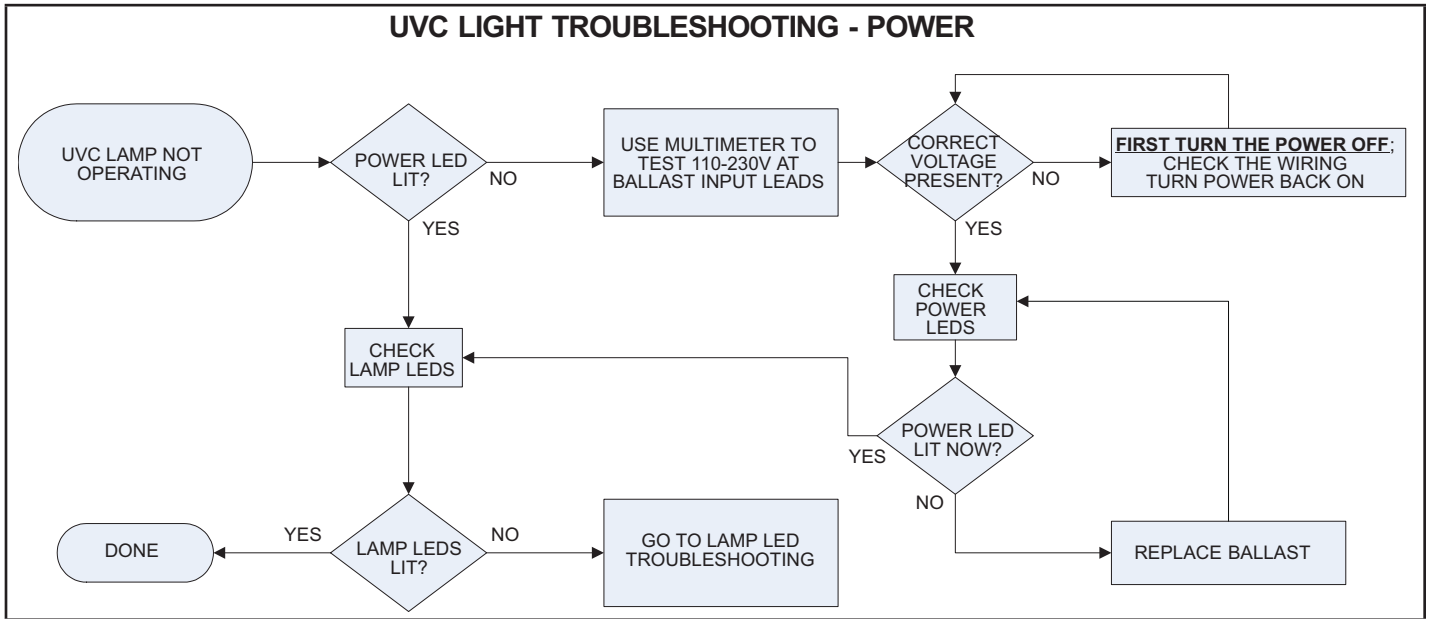
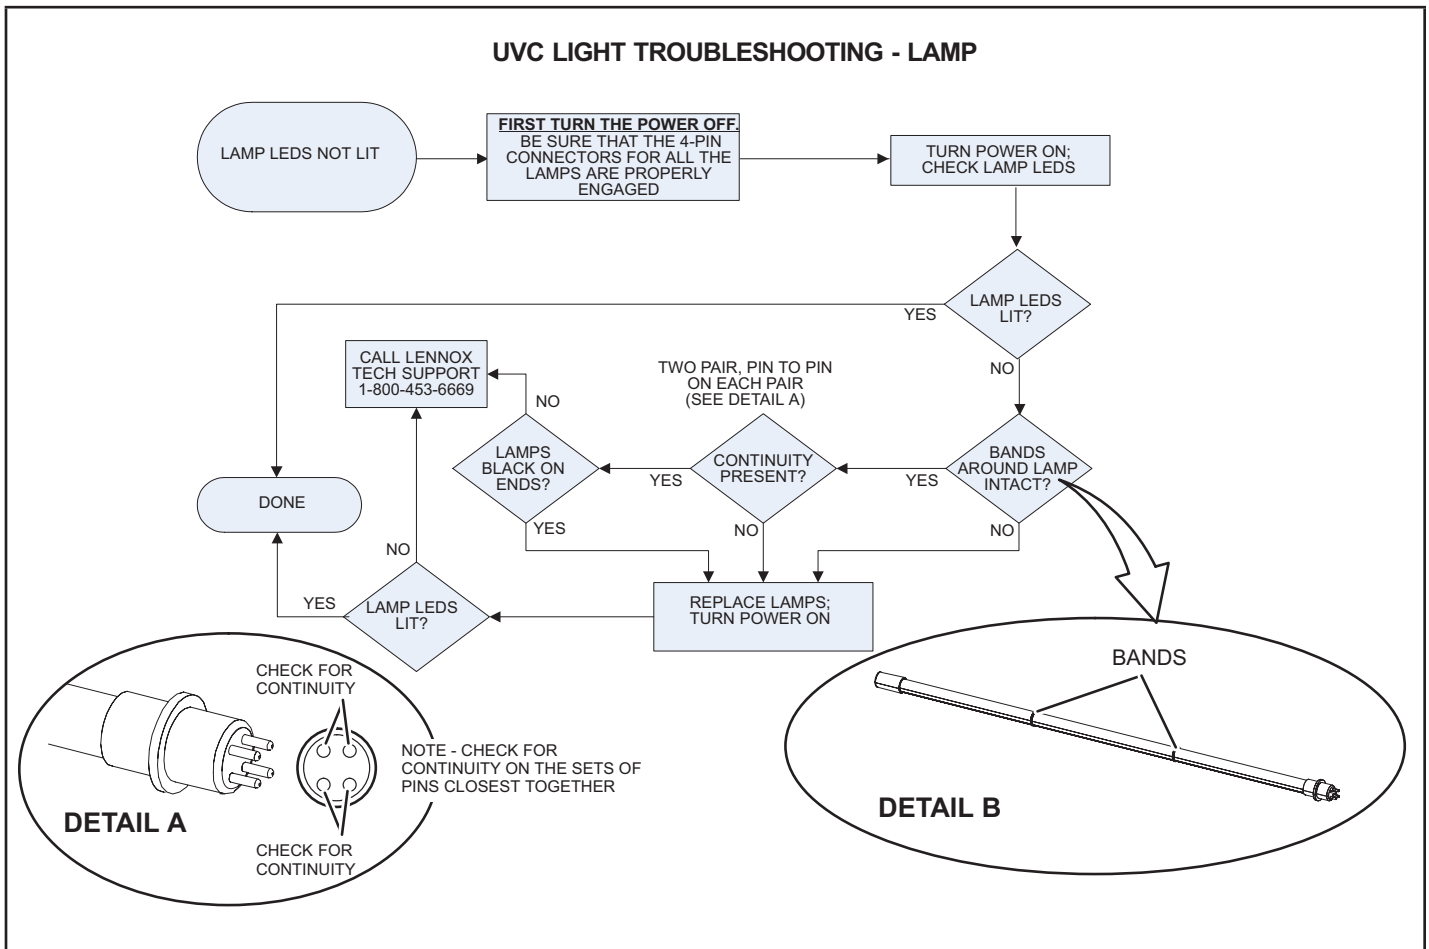

FIGURE 45
FIGURE 46
- 2 - Ohm-check across the lamp pins to check for continuity of lamp filaments (see FIGURE 46).
Troubleshooting charts are provided to aid in determining the cause of any problems encountered (FIGURE 45 and FIGURE 46).